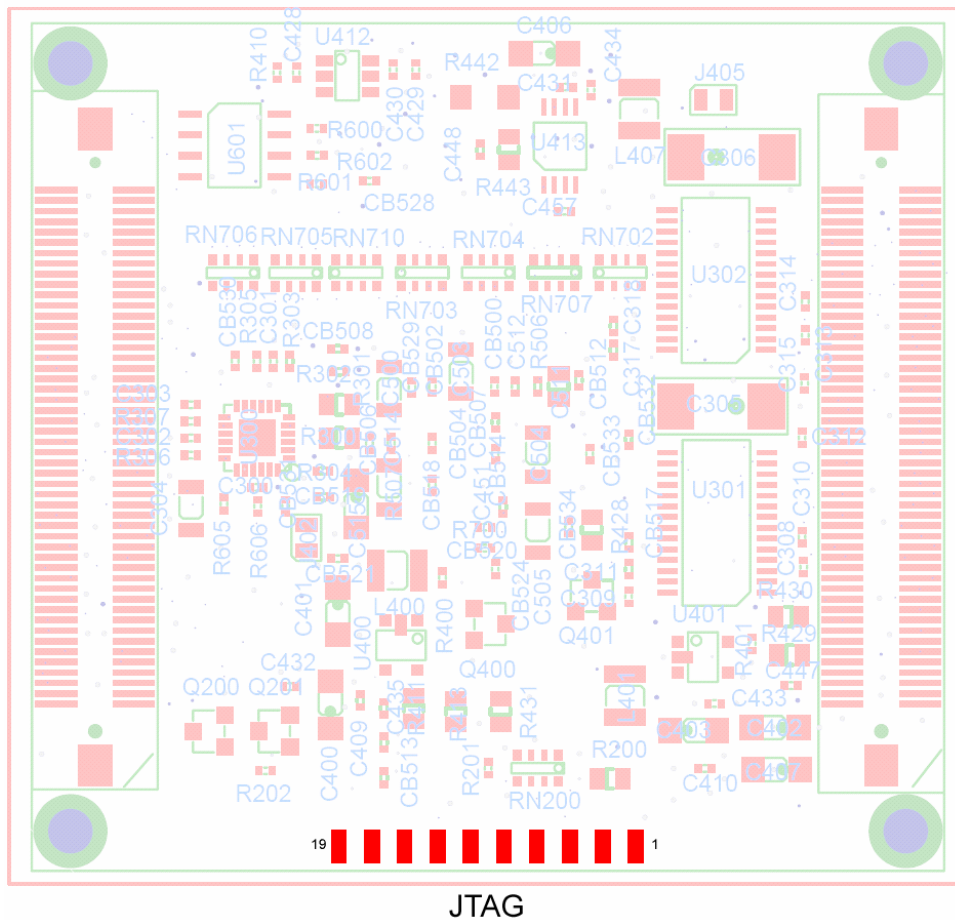

Figure 2: JTAG Edge Connector on the phyCORE-LPC3180 (Bottom View)
- Connect the 2.0 mm cable connector onto the JTAG pin header rows on the phyCORE module. Make sure that pin 1 on the ULINK cable (black wire) is correctly connected to pin 1 on JTAG connector (located on the under side of the PCB) of the phyCORE-LPC3180 (refer to Figure 2).